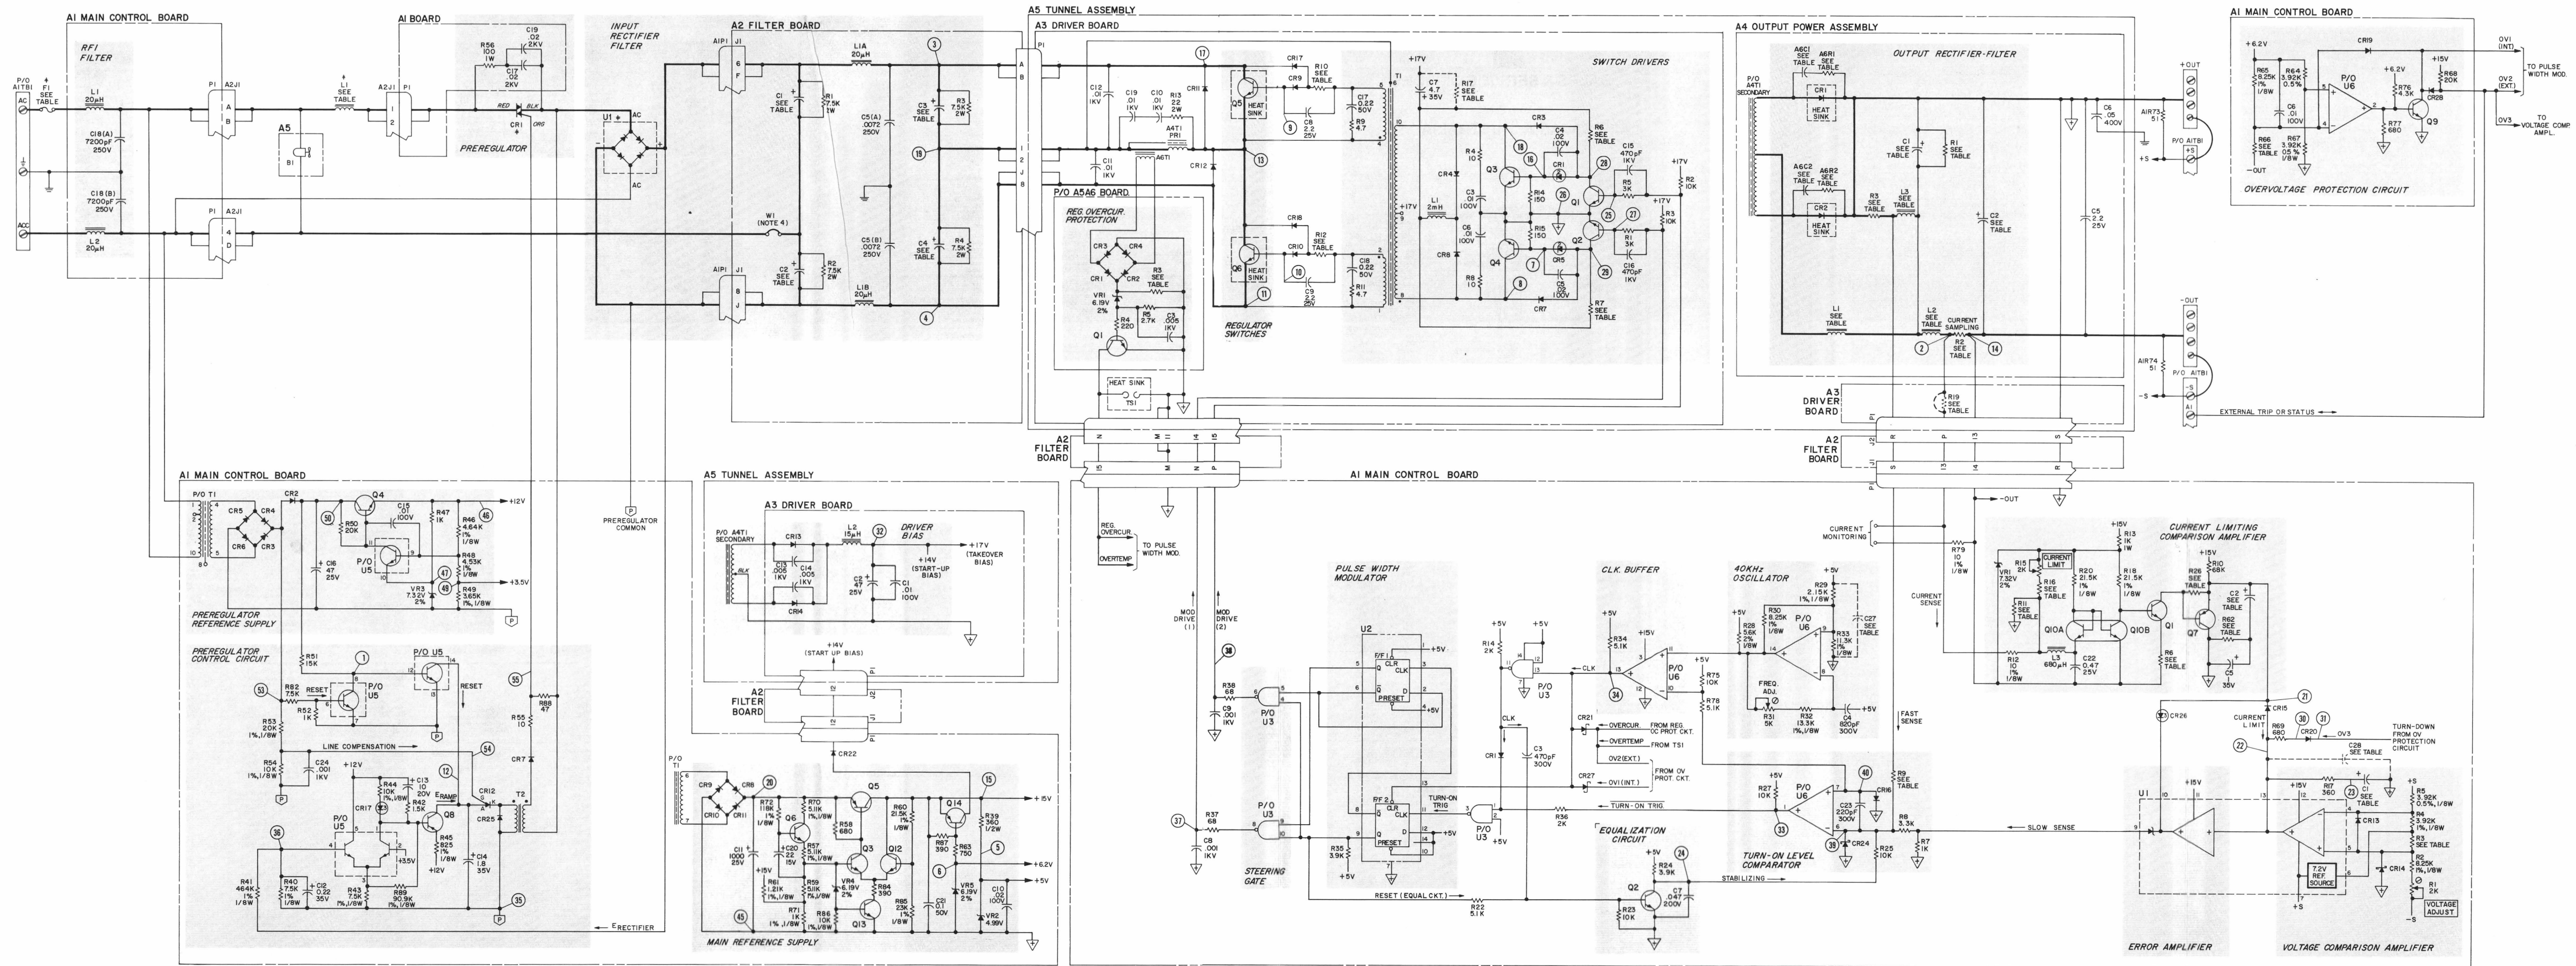

Figure 7-8. Modular Supplies, L and M Series, Schematic Diagram
- c. Schematic diagram (Figure 7-8), illustrating the circuitry for the entire power supply. Test points are identified by encircled numbers.
Make the following changes to the parts list and to the Figure 7-8 schematic or the schematic table: